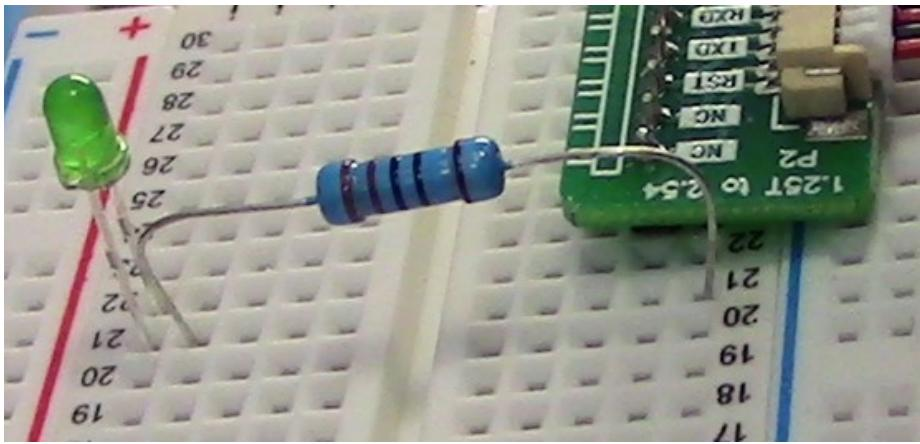

Figure 6: LED (green — you may have a different color) and Resistor (colors signify the resistance, measured in Ohms)
2. Next, we’ll connect two bare wires (small wires without black rectangles). Connect the positive rail (+ red strip on breadboard) to A30 and the ground rail (- blue strip on breadboard) to A29 (Figure 6).